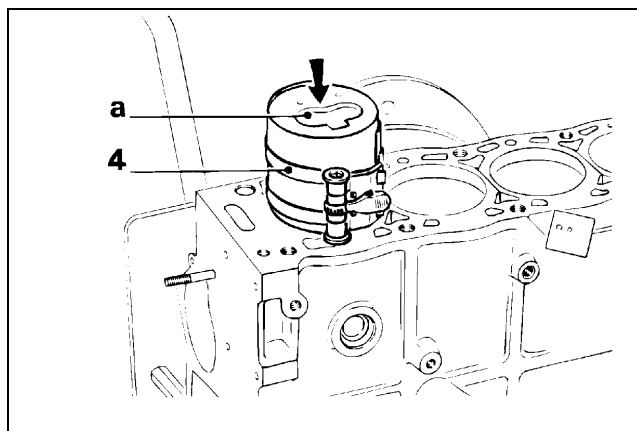

Figure 78
3. Oil the piston and tighten the piston ring clamp (Fig. 78, Item 4).